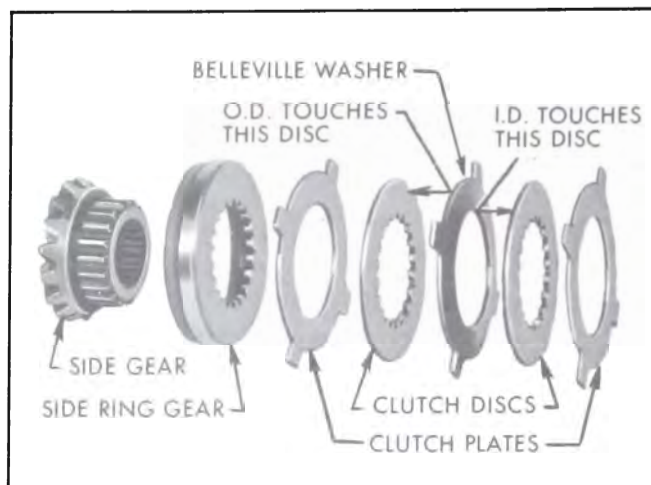

Figure 6-49—Clutch Pack
Each clutch pack consists of three clutch plates which are keyed to the differential case by external lugs, and two clutch discs which are splined internally to the side gear ring. The side gear ring is splined to the side gear which is in turn splined to the axle shaft. Whenever a load is applied to the differential, each side gear ring is forced outward, squeezing its clutch pack against the differential case. See Figure 6-49.
4. Oil clutch plates and discs thoroughly with the Special Positive Traction Lubricant or equivalent and install clutch packs. If inspection showed plates and discs to be in good condition, install original clutch packs on each side gear ring according to Figure 6-49. If any plates or discs were defective, install two new clutch packs.